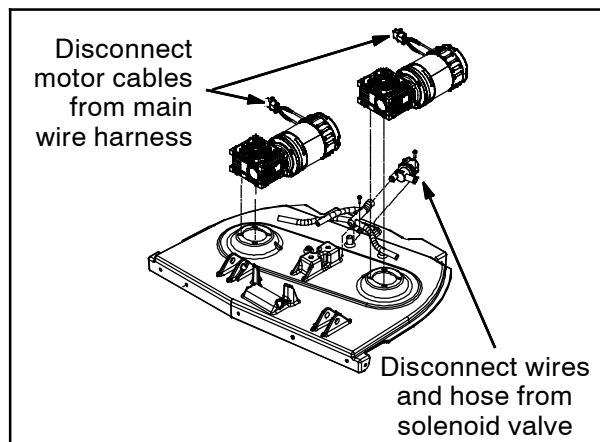

FIG. 1
8. Disconnect the cables from both scrub head drive motors and the wires and hose from the water solenoid valve. Refer to Fig. 1.
5. Connect all loose hoses, wires, and cables disconnected from the removed scrub head to the new scrub head. Refer to Fig. 1.